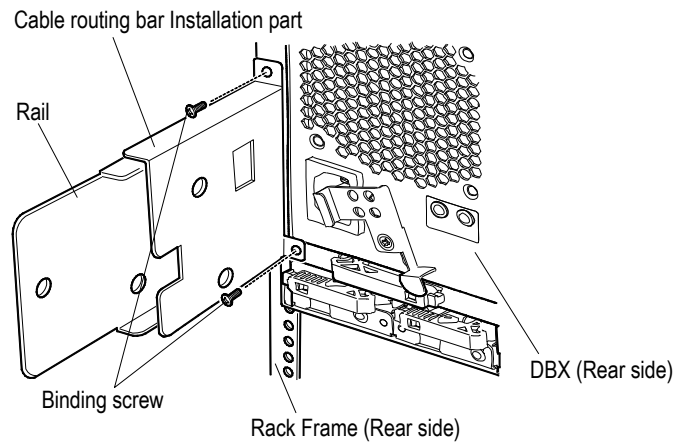

Figure 2.4.38 Installing the Cable Routing Bar Installation Part
- (1) Install the cable routing bar installation parts in the right and left of the rear side of the DBX, and fix them with the binding screws. (two places each at right and left)
The shape of the installation parts differs in the right and left routing bars, and they have no (R) and (L) mark. Install it confirming its shape (Refer to Figure 2.4.38).